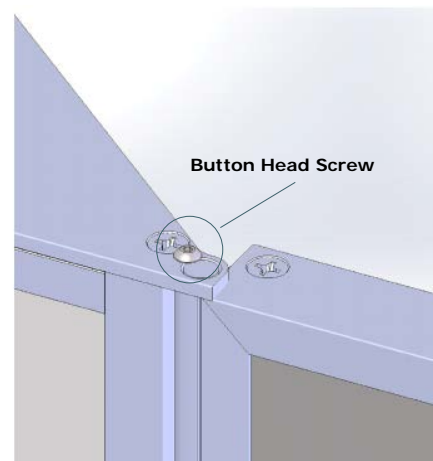

Figure 11
5. Insert and tighten the button head screw to prevent pin removal. **(See Figure 11)**